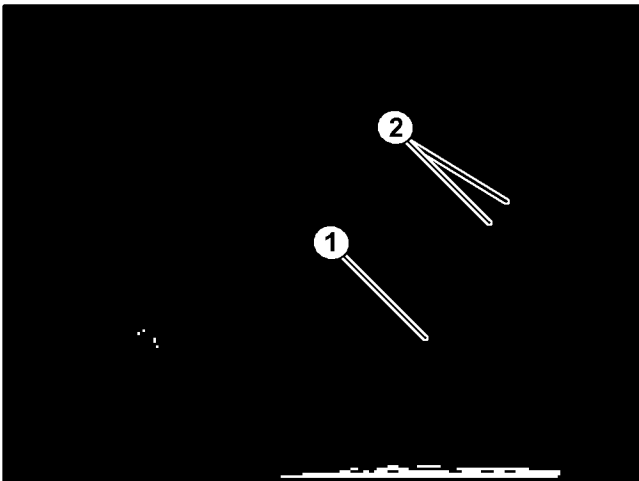

FIGURE 3
3. Pivot the clamps back up over the reel bearings. Install the reel clamp rods, washers and nuts. See Figure 3. Tighten the nuts securely but do not over tighten. Check reel to make sure it rotates freely.